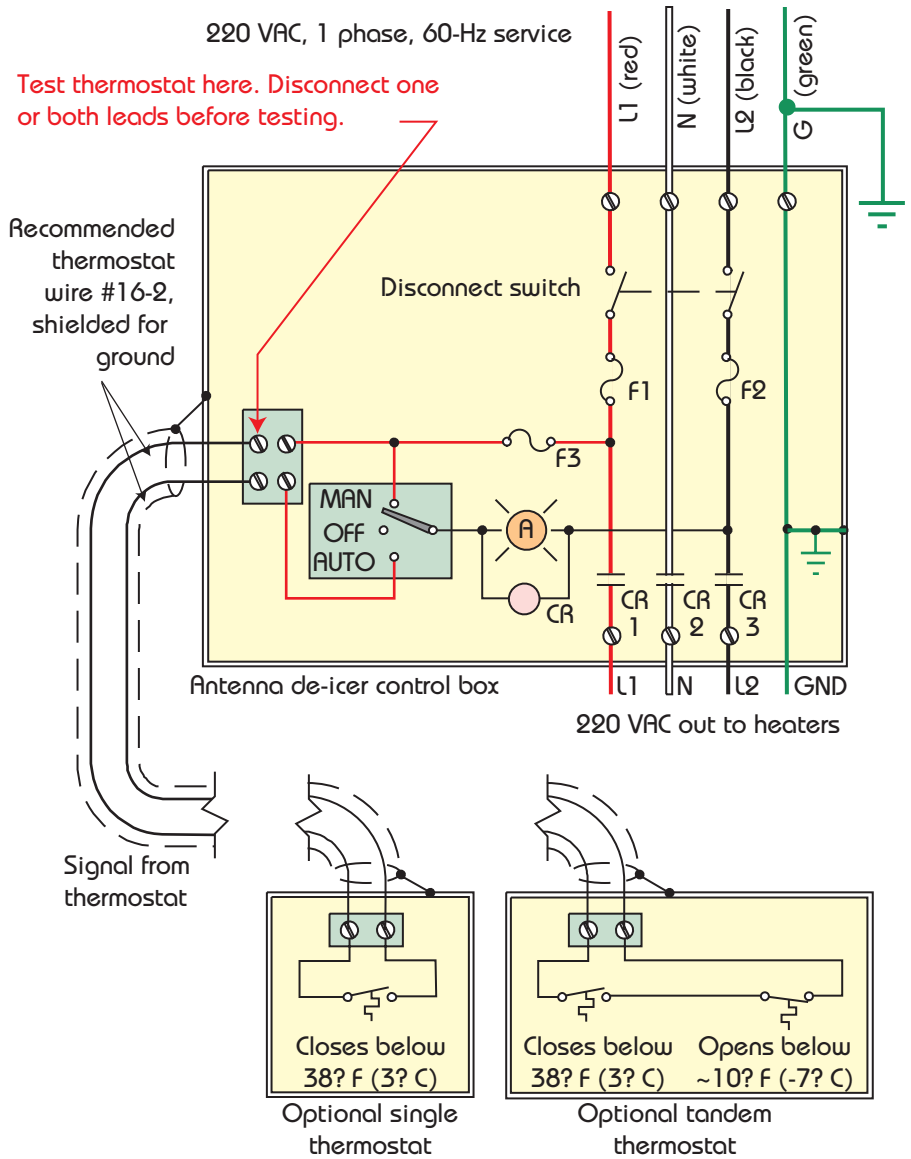

Figure 5. Main Control Box Electrical Schematic
- Furnish a main control box as shown in Figure 5.
- Wire the thermostat and the main control box as shown in Figure 5.
- Measure the resistance across the thermostat circuit and from it to ground in the same way. Test at the location shown in Figure 5. Be sure to disconnect one or both thermostat leads before taking resistance readings.